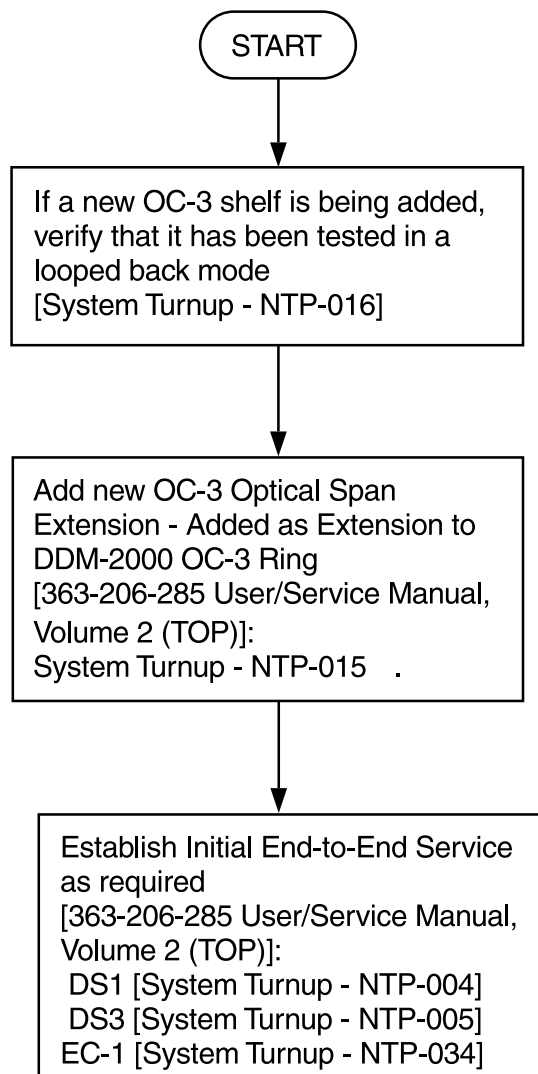

Figure 10. DDM-2000/FT-2000 Large Network Configurations — OC-3 Shelf and/or Optical Span Added as Extension to DDM-2000 OC-3 Ring
- Figure 10 OC-3 Shelf/Optical Span Extension Added to DDM-2000 OC-3